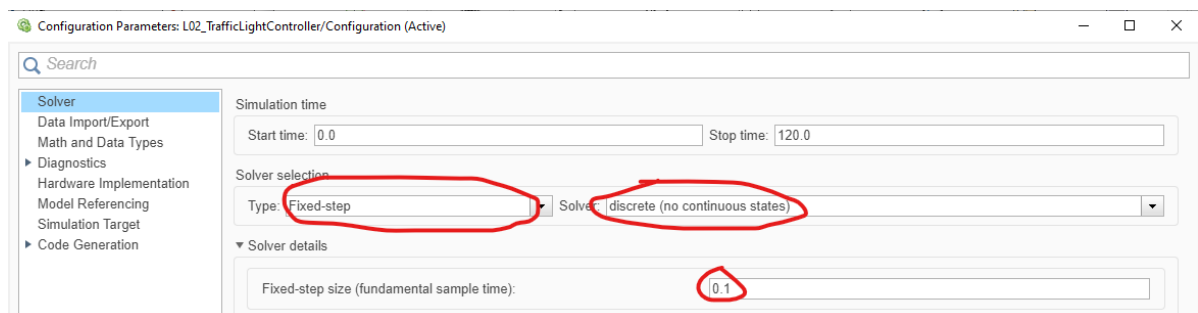

Figure 2: Model Settings
- Use “Simulation Pacing” to have simulation time slightly faster than normal time (see Fig.2)